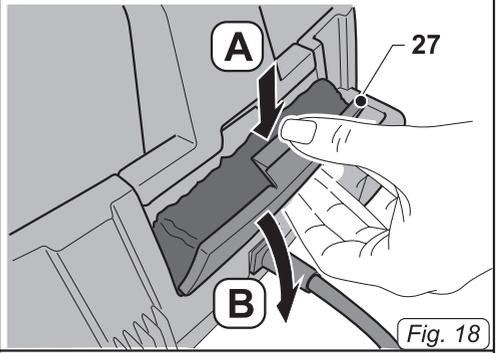

Fig. 18
- Unhook the flap (27 Fig. 18); press it downwards "A", and then open it "B".